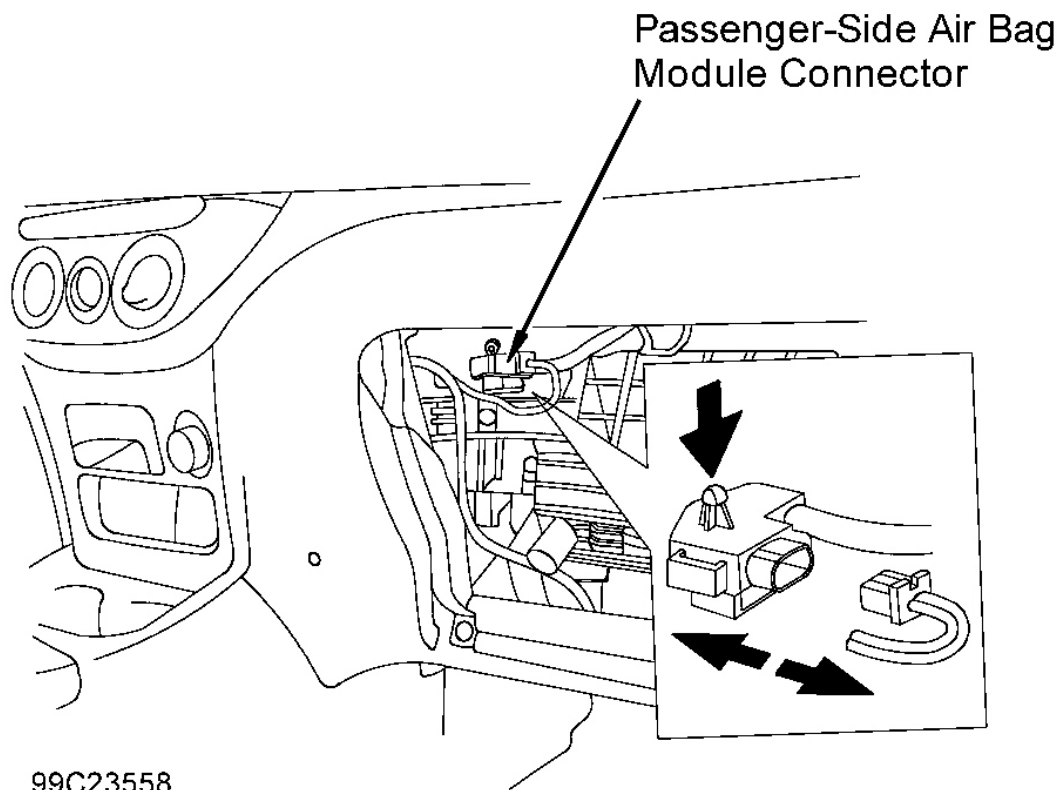

Fig. 3: Disconnecting Passenger-side Air Bag Module Connector
1. Turn ignition switch to LOCK position. Disconnect and shield negative battery cable. Wait at least 90 seconds. Disconnect air bag sensor assembly connectors. See **AIR BAG SENSOR ASSEMBLY** under REMOVAL & INSTALLATION. Remove driver-side air bag module. See **DRIVER-SIDE AIR BAG MODULE** under REMOVAL & INSTALLATION. Disconnect passenger-side air bag module connector, accessible by removal of glove box assembly. See **Fig. 3**.
2. Remove glove box. Disconnect passenger-side air bag connector. See Fig. 3 . Connect Deployment Tools (09082-00700 and 09082-00760 single inflator] or 09082-00780 double inflator]) to air bag module